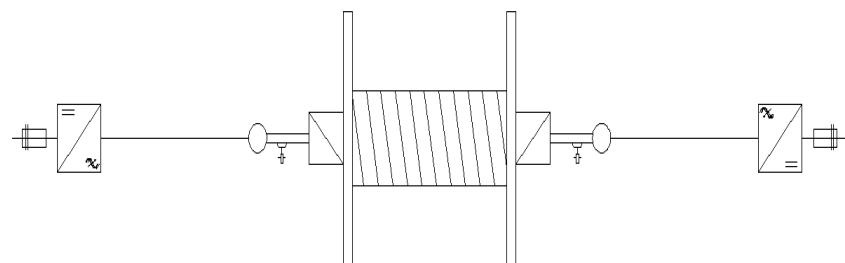

Figure 6-48: Brake test
- If the absolute actual speed (indicated by the inverter which is 'connected' to the brake which is currently being tested, see Figure 6-48) exceeds 0.2% of the nominal speed, the brake is disapproved.